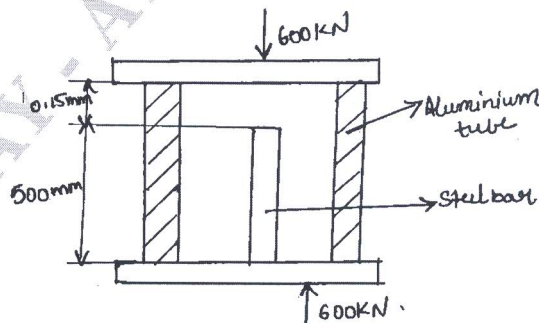

Fig.Q2(b)
- b. A solid steel bar 500mm long and 70mm diameter is placed inside aluminium tube having 75mm inside diameter and 100 mm outside diameter. The aluminium cylinder is 0.15mm longer than the steel bar. An axial load of 600kN is applied to the bar and the cylinder through rigid cover plates as shown below Fig.Q2(b). Find the stresses developed in steel bar and the aluminium tube. Assume  $E_s = 210 \text{ kN/mm}^2$  and  $E_{Al} = 70 \text{ kN/mm}^2$ . (12 Marks)